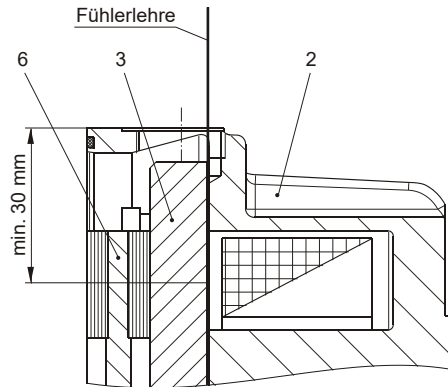

Fig. 6
The air gap can be inspected via a feeler gauge after removing the screw plug (39). The feeler gauge must be inserted at least 30 mm deep (see Fig. 6), so that the distance between the armature disk (3) and the coil carrier (2) can be measured.